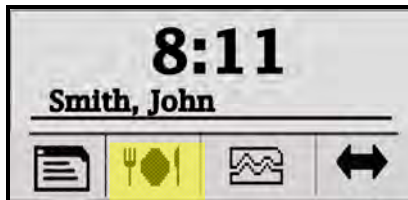

Figure 30: Enter Meal Punch
- Step 2.** The user can swipe his/her badge magnetic card or use the keypad to enter the ID number. Press **enter**  to accept the ID number when using the keypad. If the ID is valid for that terminal, the screen will change to display name [if a name exists] and allow meal punch (see **Figure 30**).